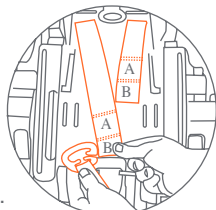

Fig. 30-2
5. Turn the seat over. Locate the Belt Adjuster Plate near the bottom of the seat (Fig. 30-2). Remove both Harness Straps from the Belt